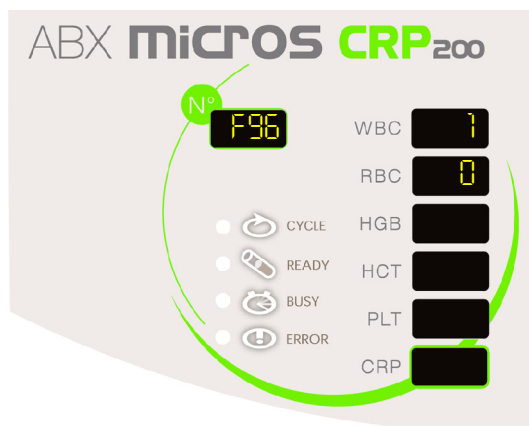

Fig.7: F96 CRP reagent
- ◆ Run F[96] function: Cooler / Heater check (See "Fig.7: F96 CRP reagent, page 4").